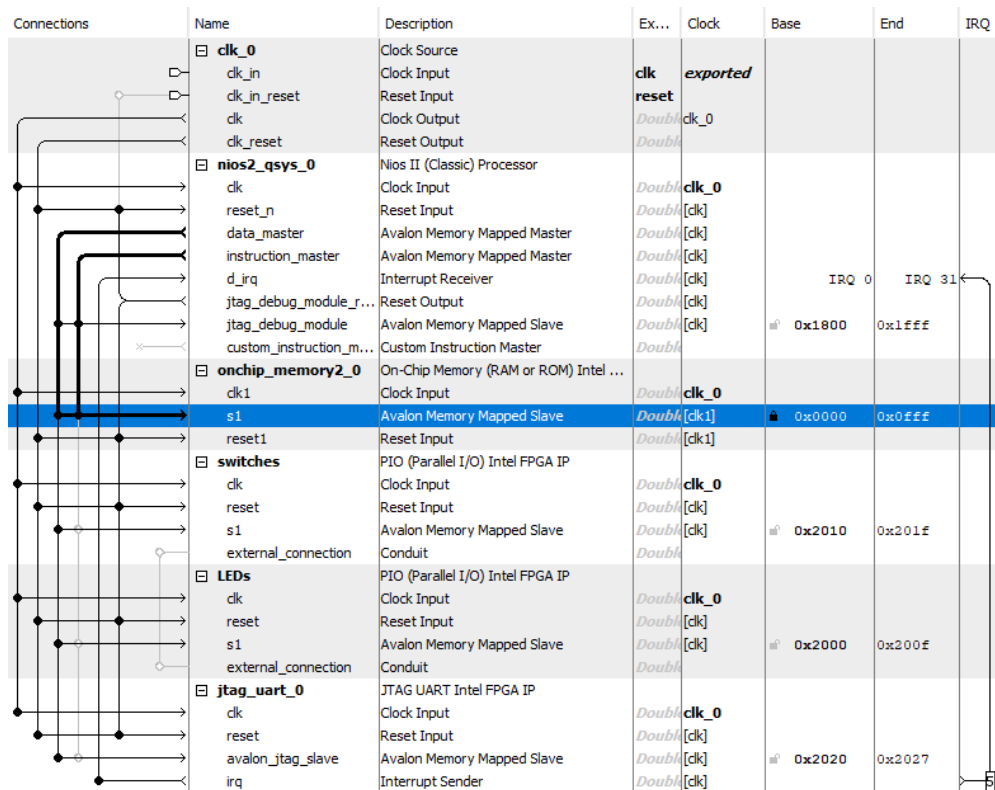
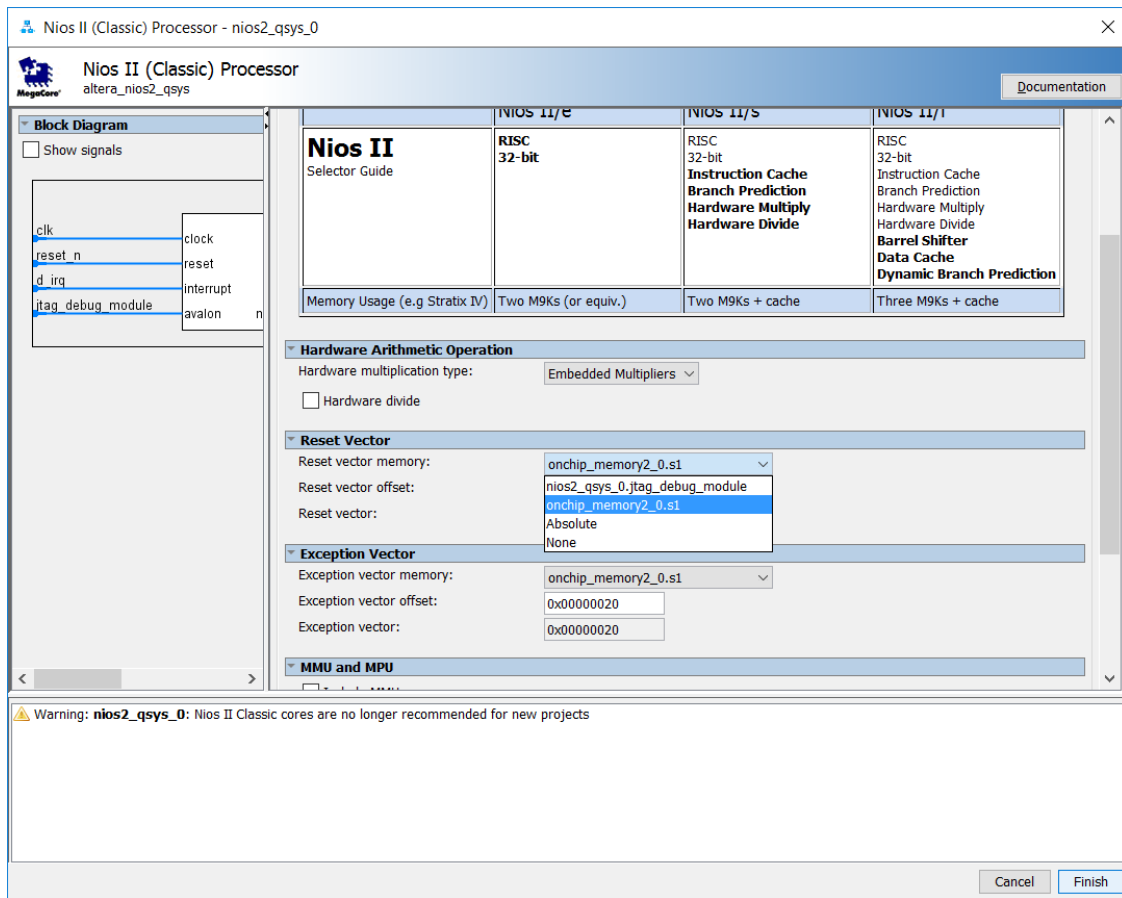

Figure 16. The system with assigned addresses.
Figure 17. Define the reset and exception vectors.
- Observe that the base and end addresses of the various components in the designed system have not been properly assigned. These addresses can be assigned by the user, but they can also be assigned automatically by the Platform Designer tool. We will choose the latter possibility. However, we want to make sure that the on-chip memory has the base address of zero. Double-click on the Base address for the on-chip memory in the Platform Designer window and enter the address 0x00000000. Then, lock this address by clicking on the adjacent lock symbol. Now, let the Platform Designer assign the rest of the addresses by selecting **System > Assign Base Addresses** (at the top of the window), which produces an assignment similar to that shown in Figure 16.
- Right-click on the *nios2\_qsys\_0* component (it may be called *nios2\_processor* in some versions of the Platform Designer) in the window displayed in Figure 16, and then select **Edit** to reach the window in Figure 17
- Select *onchip\_memory2\_0.s1* to be the memory device for both reset and exception vectors, as shown in Figure 17